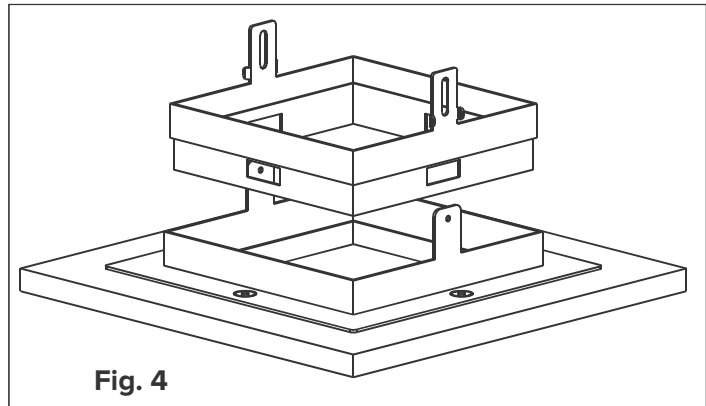

Fig. 4
Step 4: Align the tabs on the guiding collar with the adapter and slide the adapter down **Fig. 4.** Use 1/8" Allen Key (**LU332ALLEN**) to partially tighten the screws.